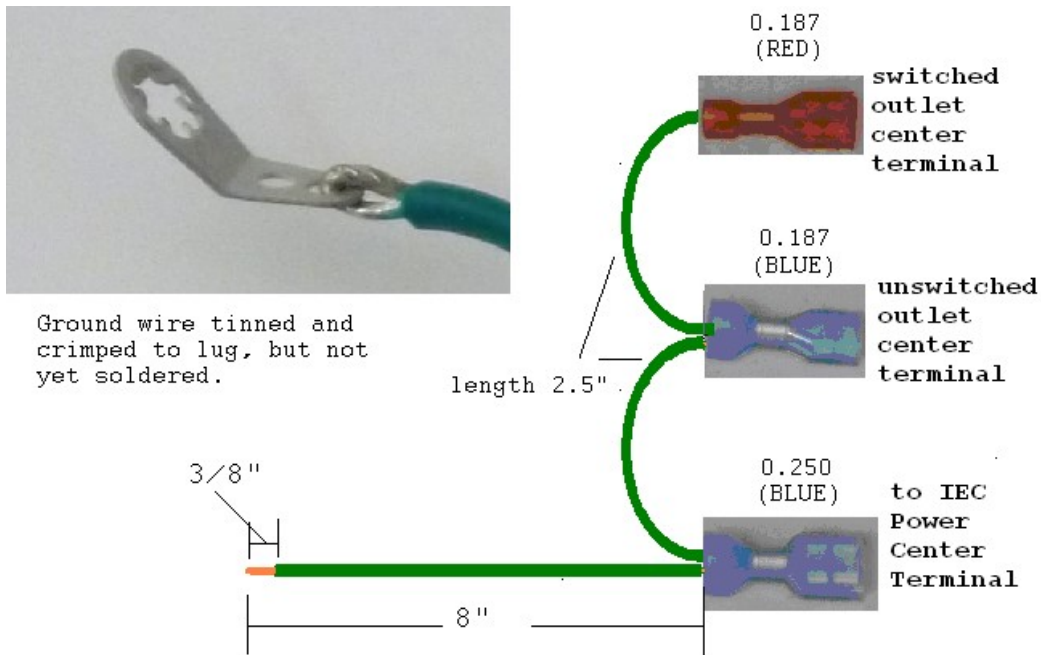

Figure 15-Adding Lug to Ground Harness
1. Cut the long green wire to 8" length as shown in Figure 15.
2. Remove 3/8" of insulation from the now 8" wire. Twist and tin the strands. Loop and crimp the wire on the lug as shown in Figure 15. Solder the wire to the lug.